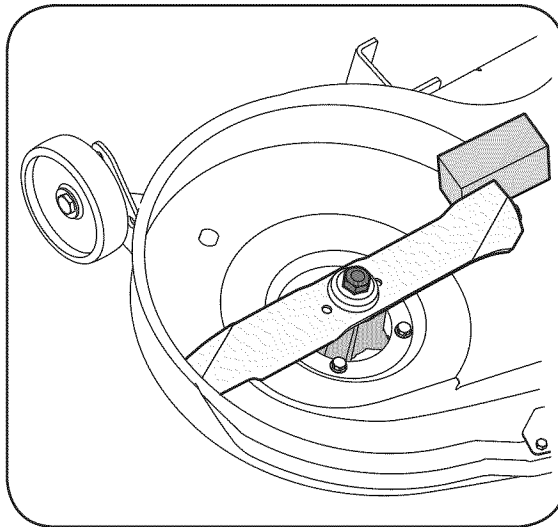

Figure 6-5
2. Place a block of wood between the center deck housing baffle and the cutting blade to act as a stabilizer. See Fig. 6-5.
3. Use a 15/16" wrench to remove the hex flange nut that secures the blade to the spindle assembly. See Fig. 6-5.